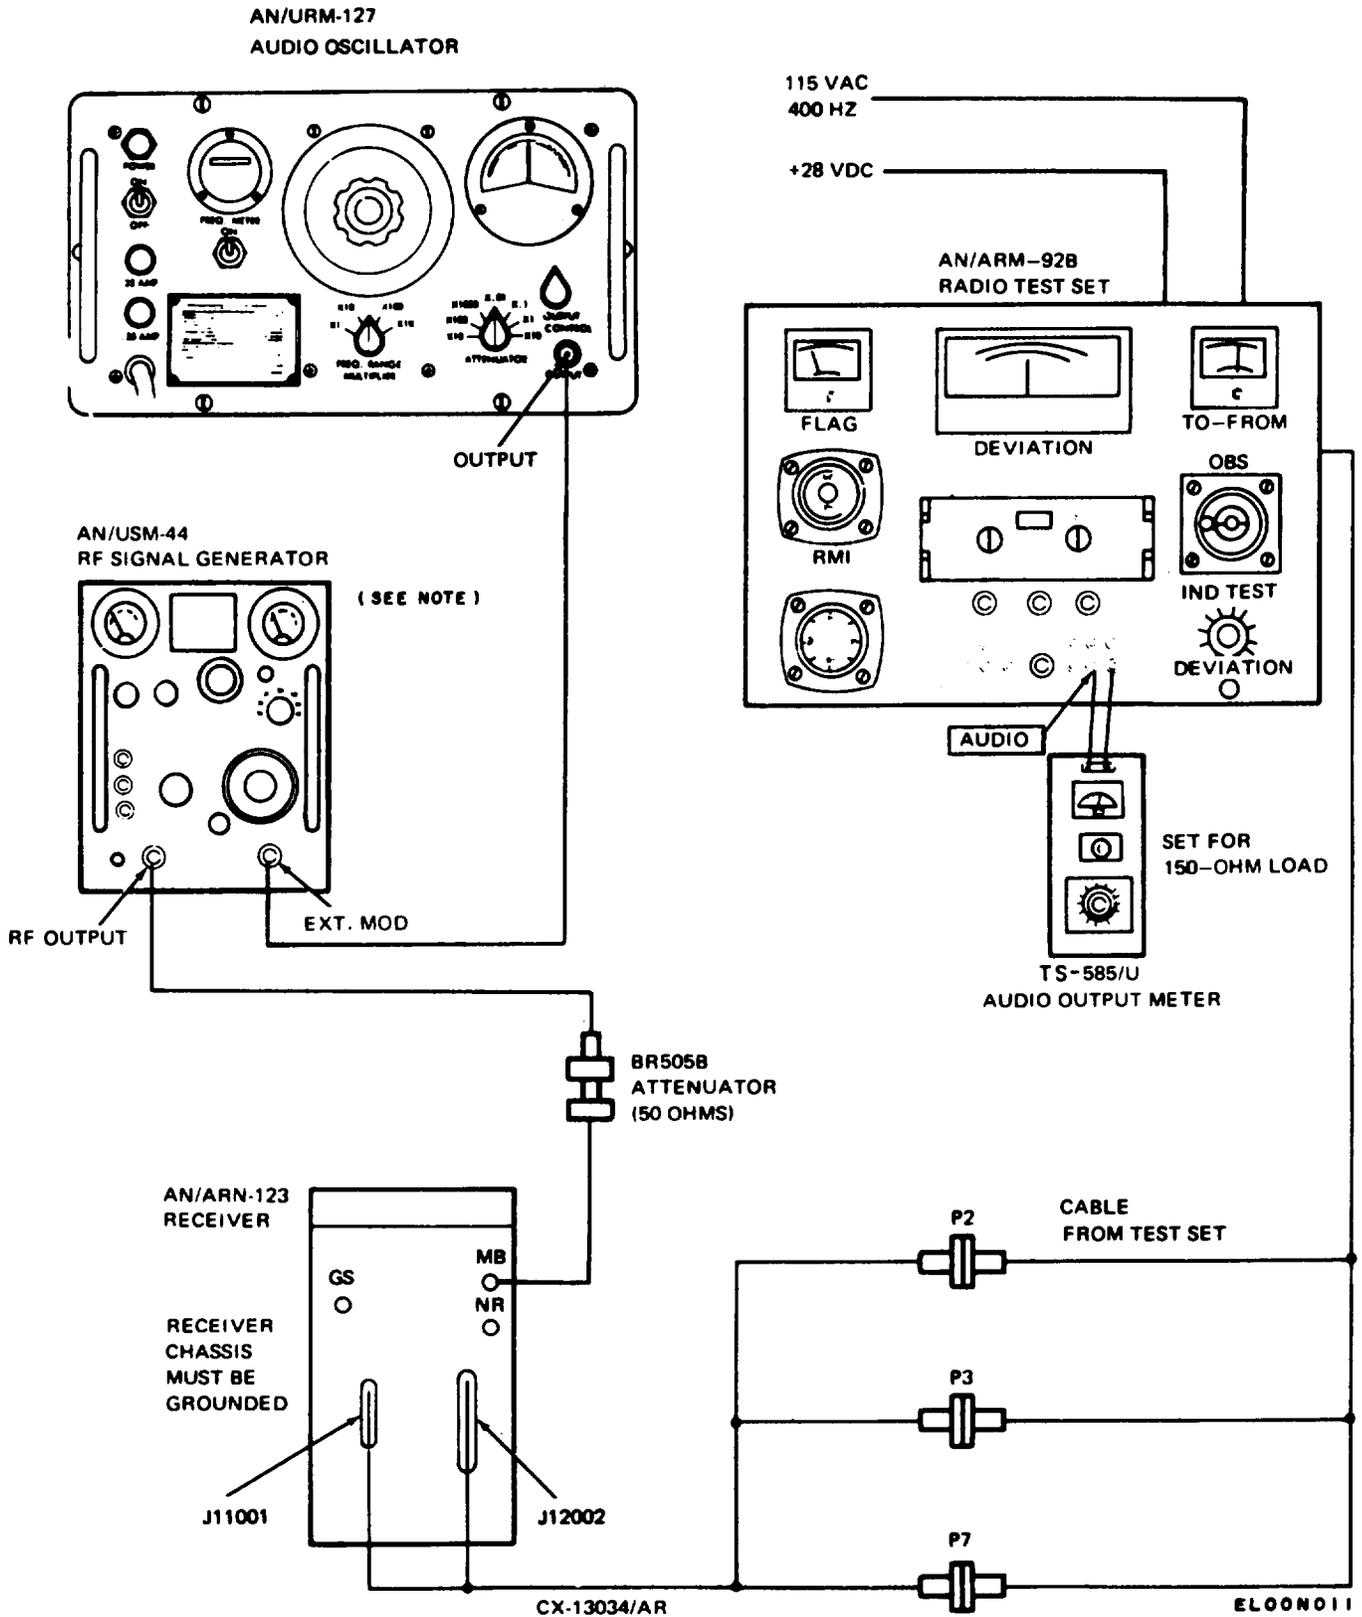

Figure 3-3. Bench Test Setup, Marker.
(2) Set the AN/ARM-5 **MODULATION** switch to 90°.
(3) Adjust the AN/ARM-5 90° **MOD** control for 22.5 on %M meter. The AN/ARM-92B **FLAG** meter must indicate less than 180 microampere.
(5) Adjust the AN/ARM-5 150° **MOD** control for 22.5 on %M meter. The AN/ARM-92B **FLAG** meter must indicate less than 180 microampere.
(6) Connect Cable CG-409/U between AN/ARM-5 **DEMOM** jack and AN/ARM-69 **DEMOND** jack.
(7) Connect Cable CG-433/U between AN/ARM-5 **EXT MOD** terminals and AN/ARM-69 **MOD** jack.
(8) Set the AN/ARM-5 **MODULATION** switch to **AMP LOC** (⬇️).
(9) Set the AN/ARM-5 **DEMOM** adjust (screw-driver adjustment) for 80 on %M meter. The AN/ARM-92B **FLAG** meter must indicate 220 microampere minimum.
*a. Test Setup.* The marker beacon bench tests are performed with test setup shown in figure 3-3.